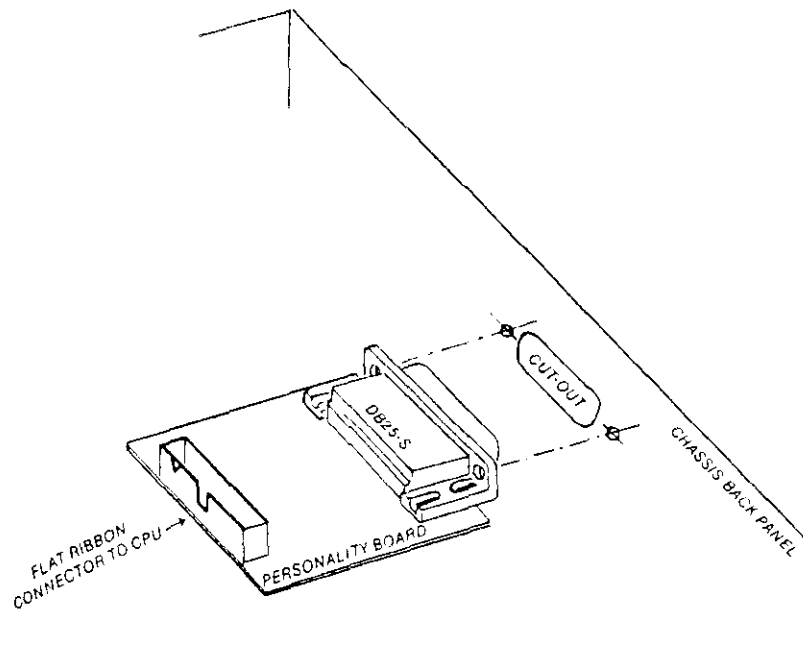

FIGURE 1.6
2. Install the Personality Board as illustrated in Figure 1.6.
7. Plug the other DB-25 male connector into the DB-25 female connector on the RPB-200 Personality Board on the rear panel of the S-100 chassis. Reference Figure 1.6 for the correct location.